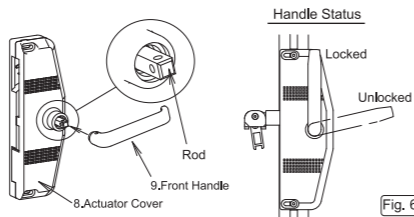

Fig. 6
- Install the front handle (black) on the rod as shown in Fig. 6.